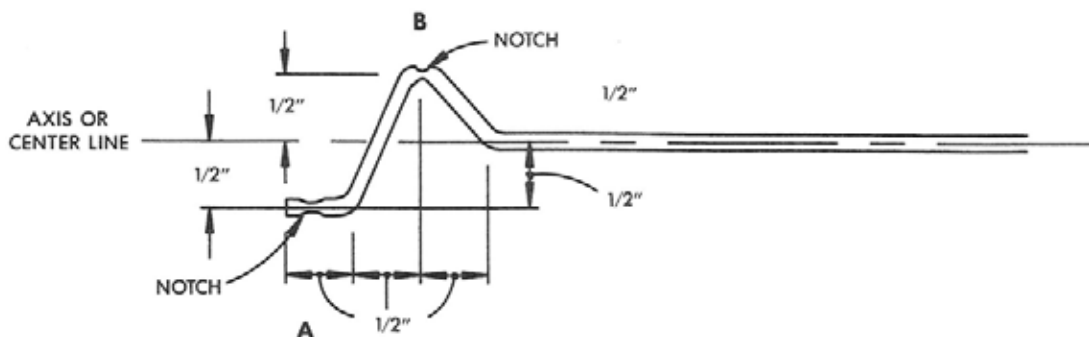

Figure 4-56. Construction of the double-cam mechanism.
2. Make the drive shaft as shown in Fig. 4-56. Make sure cam A is about 1/2 in. above the shaft axis and that B is about 1/2 in. below it. With a metal file, cut out the grooves or small notches around the cam. The slot or notch need not be too deep nor broad. Position the drive shaft, then cut it with a 2 in. protrusion from the platform. Thread this end 1 in. and place it in the channel with the 3/16 in. metal tubing. Glue/brad the cover over it.